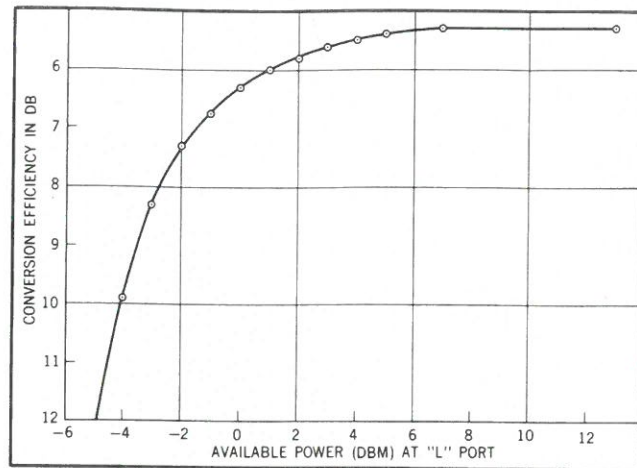

Figure 3. Conversion Efficiency
e. Conversion efficiency is the ratio of power in one output sideband to the power available at R. Figure 3 represents the conversion efficiency as a function of the available power at L, of a typical Model 10514A, B Mixer used as a mixer (Paragraph 14), or phase detector (Paragraph 15). Input signals at L and R are 1MHz, with the signal level at R maintained at 10 mv. Note that the conversion efficiency decreases sharply as power available at L is reduced below 0 dBm.